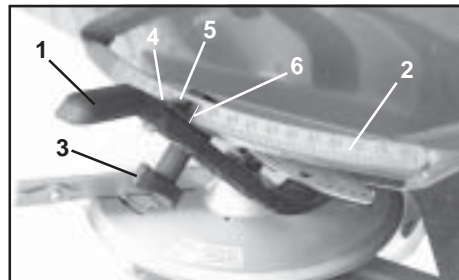

Fig. 9.5
- Slacken the hex. bolt (9.5/4). Align the pointer (9.5/5) with the scale figure „8“ and fix with the hex. bolt. The read-off edge of the pointer is Fig. 9.5/6.